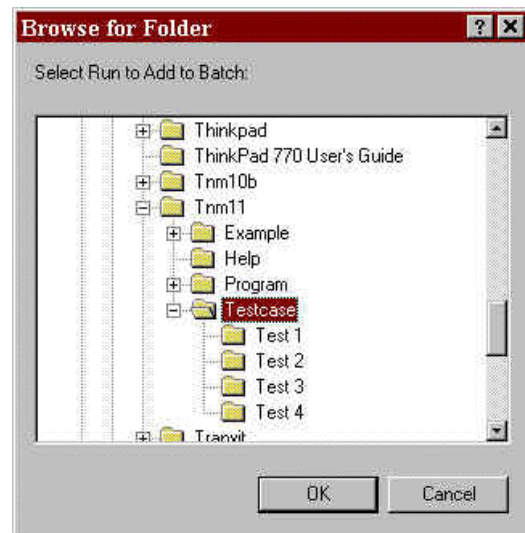

Figure 17. Browse for Folder dialog.
- **Add Run** - Displays the **Browse for Folder** dialog (see Figure 17) for adding runs to the list of runs to calculate;